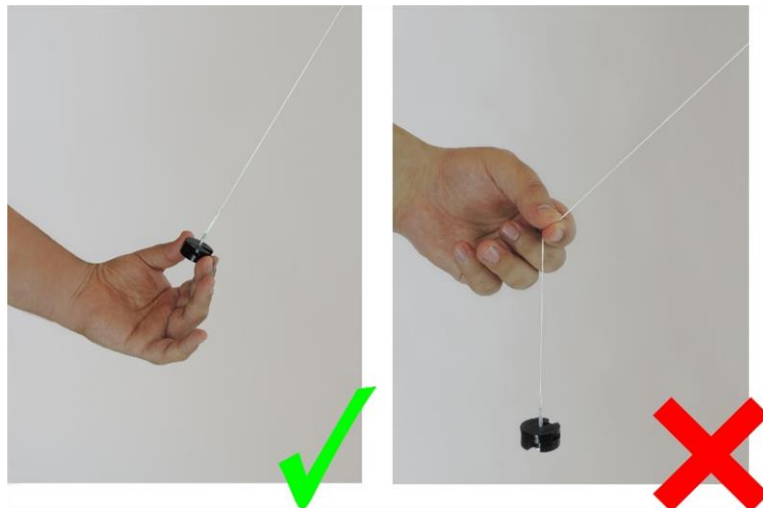

Figure 1.12: Hold the pendulum from the weight holder not from the string.
- When moving the end of the pendulum laterally, hold it from the weight holder (12) not from the string as shown in Figure 1.12.